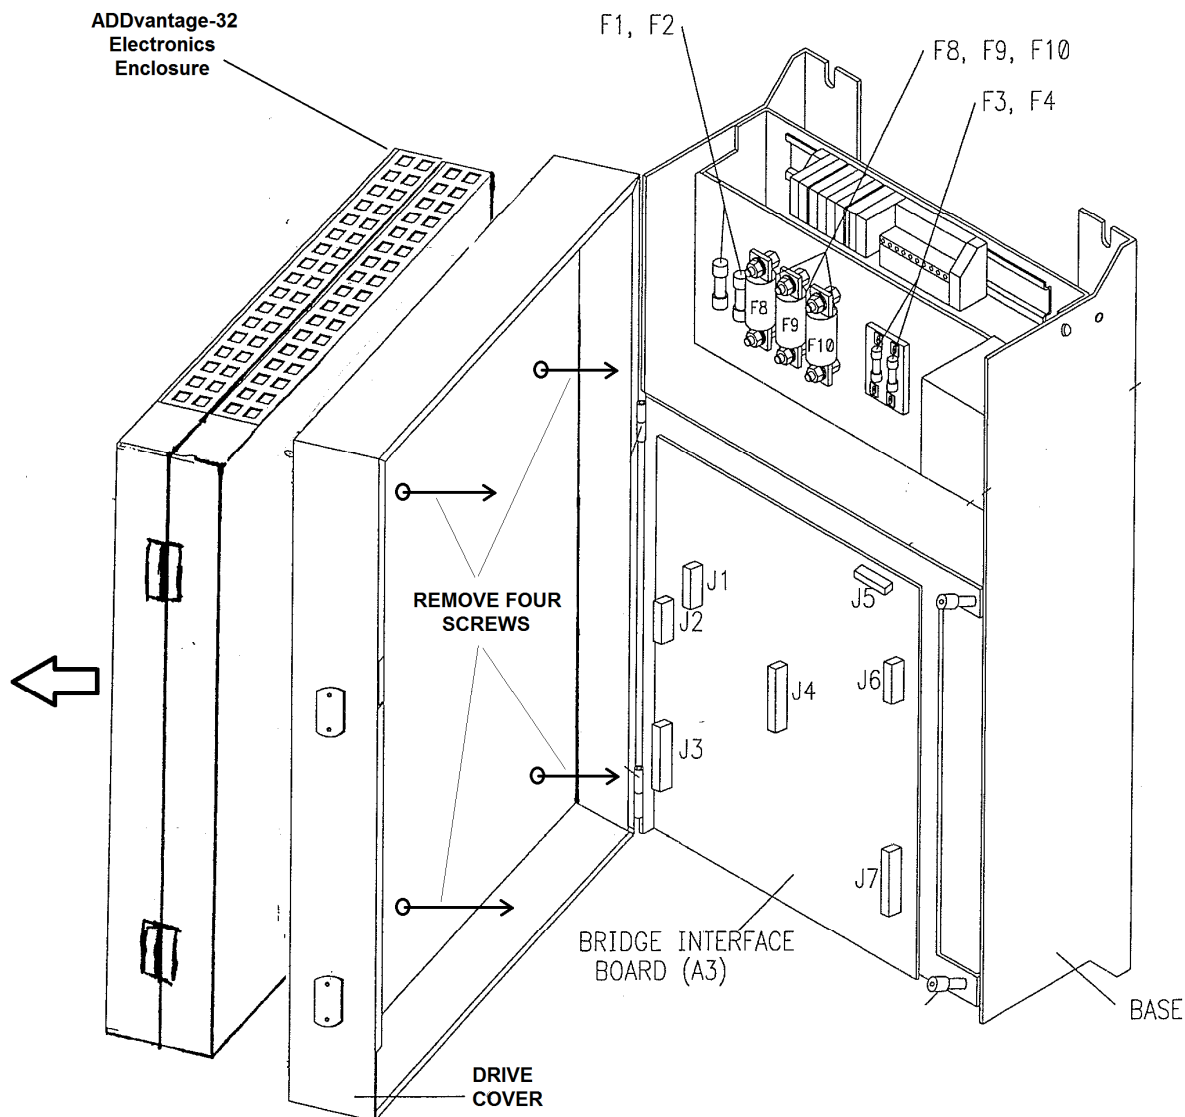

Figure 12-4. The ADDvantage-32 drive cover shows the four screws that hold the electronics enclosure in place.
5. Close and latch the ADDvantage-32 electronics enclosure door. Open the drive cover. Remove the four screws attaching the electronics enclosure to the drive cover. This is illustrated in Figure 12-4.